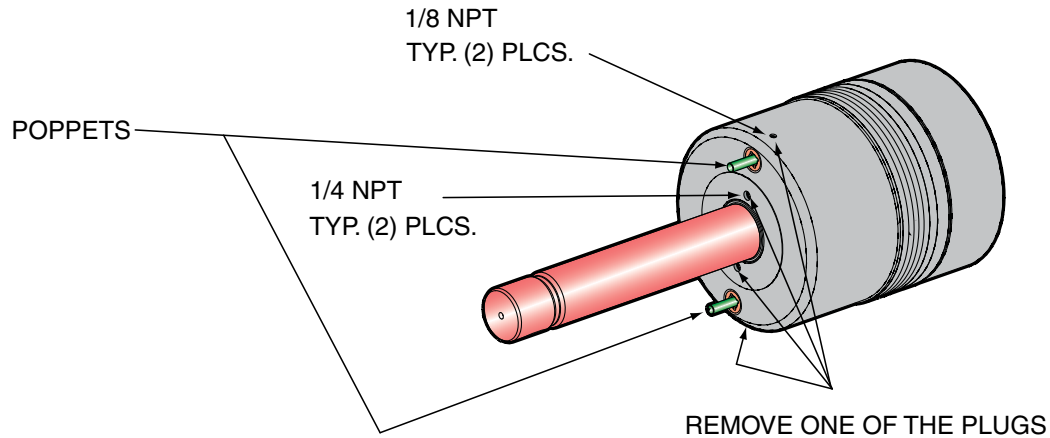

Figure 5-64. UltraLock Operator and Ram Shaft Assembly
The operator assembly and ram shaft must be removed from the NXT door to gain access to the front of the piston as shown in Figure 5-64 (see the section titled “UltraLock II (B) Operator Locking System Repair” on page 5-63).
1. Using a ¼” hex wrench, remove one of the plugs indicated in Figure 5-64 on page 5-74.